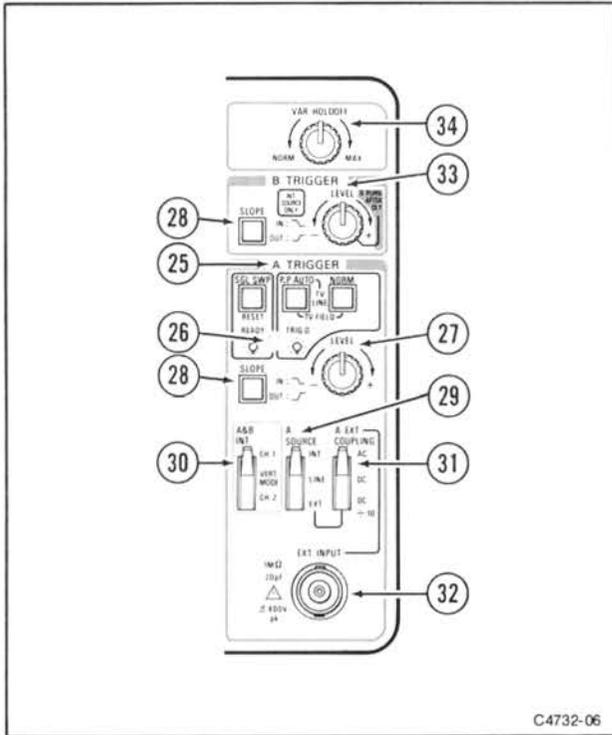

Figure 2-6. Trigger controls, connector, and Indicator.
Refer to Figure 2-6 for location of items 25 through 34.